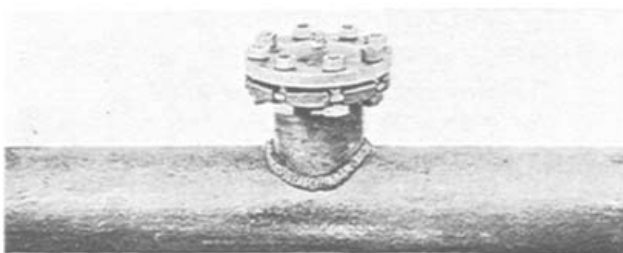

FIGURE 59
19. Bolt cap solidly to nipple flange. **Figure 59**.